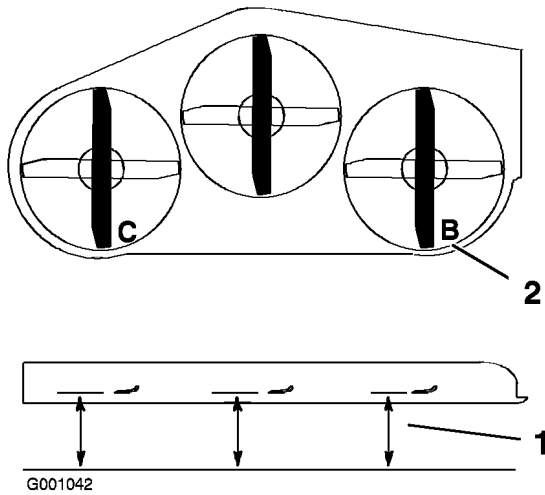

Figure 77
1. Position the right blade front-to-rear (Figure 77).
2. Measure the right blade at the **B** location, from a level surface to the cutting edge of the blade tip (Figure 77).
4. Position the left blade front-to-rear (Figure 77).
5. Measure the left blade at the **C** location (Figure 77), from a level surface to the cutting edge of the blade tip .